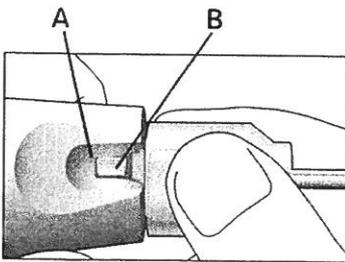

Figure 12. Key Slot (A) and Key (B)
To insert a blade, orient the handpiece so that you can see the key slot (A) on the handpiece and the key (B) on the blade (Figure 12). Insert the blade into the handpiece so that the key goes into the slot. The key should be pushed in proximally as far as possible for a positive lock.